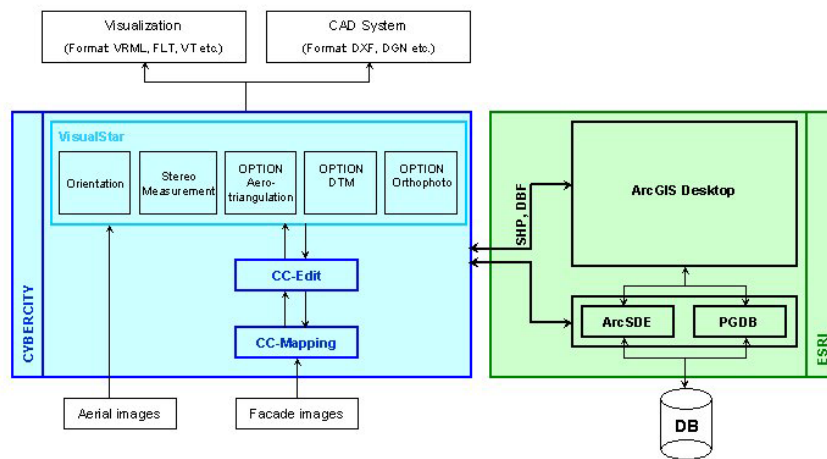

Figure 1: Workflow for Updating of 3D-city models in CyberCity processes and the management with ESRI's Arc products
CC-Modeler is an automatic topology generator for 3D-objects. The main components of the system are shown in Figure 1. The first obligatory step is preprocessing, which includes the checking of the measurement order of the boundary points (BP), detection of redundant points, and determination of the possible groups of faces, based on sets of adjacent (BP) point pairs.